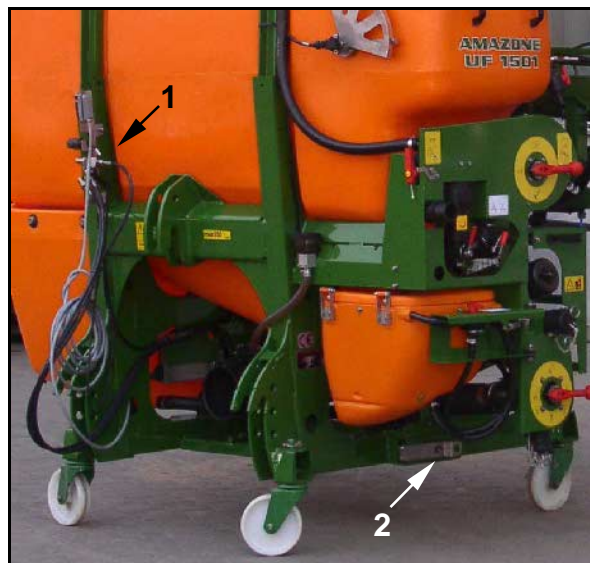

Fig. 179
1. Uncouple the supply lines between tractor and machine and insert into the relevant retaining bushings (Fig. 179/1).
2. Pull out and arrest both parking supports (Fig. 179/2).